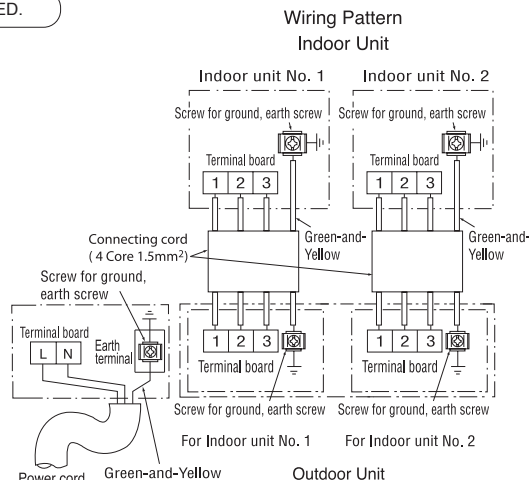

Fig. 1-1
- (1) Connect the electrical wiring between the Indoor and Outdoor unit, as shown in Fig. 1-1. Never connect the wiring by mistake. In case of wrong connection, the unit does not operate properly and it may cause malfunction.
- (2) The connecting cord must be fixed by the band which is located near the terminal board.